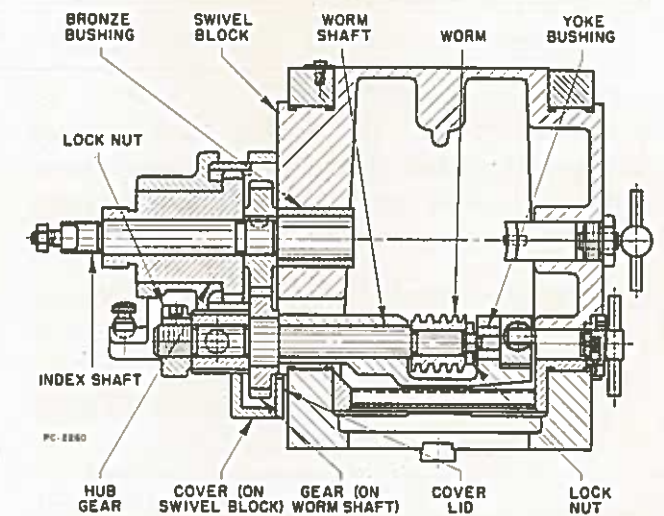

FIGURE 9C
To Remove Index Shaft (Figure 9C)
2. Loosen $\frac{3}{8}$ " lock screw, tap to free lock shoe and remove Lock Nut from end of Worm Shaft (Figure 9C).
(Note: If Worm and Yoke are also to be removed—page 10—Lock Nut, Figure 9C, should be loosened before removing index shaft. Replace Index Pin Lever on Index Shaft, place a spanner wrench on Lock Nut and loosen nut by turning index pin lever clockwise.)
5. Loosen $\frac{3}{8}$ " lock screw, tap to free lock shoe and remove $\frac{1}{8}$ " Lock Nut from end of Worm Shaft (Figure 9C). The 10"
7. Unscrew oiler from left side of Cover (On Swivel Block), remove three $\frac{5}{16}$ " fillister head screws and remove Cover with two No. 4 taper pins from Swivel Block (Figure 9C).